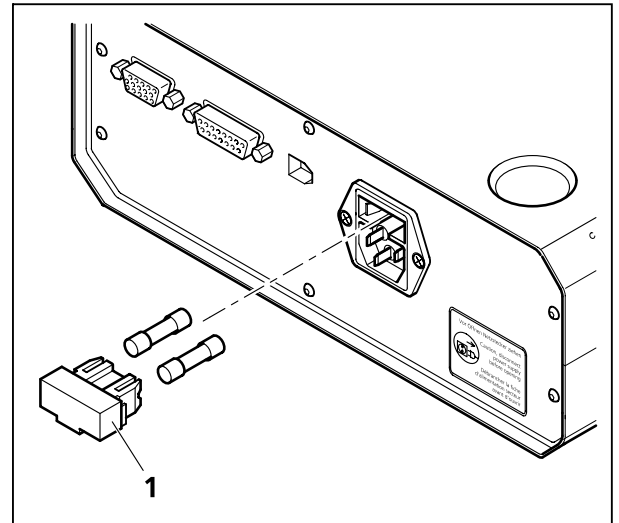

Fig. 5-3 **Sicherungen am Controller wechseln**
- Pull fuse holder (Fig. 5-3/1) out of the fuse compartment from the front.